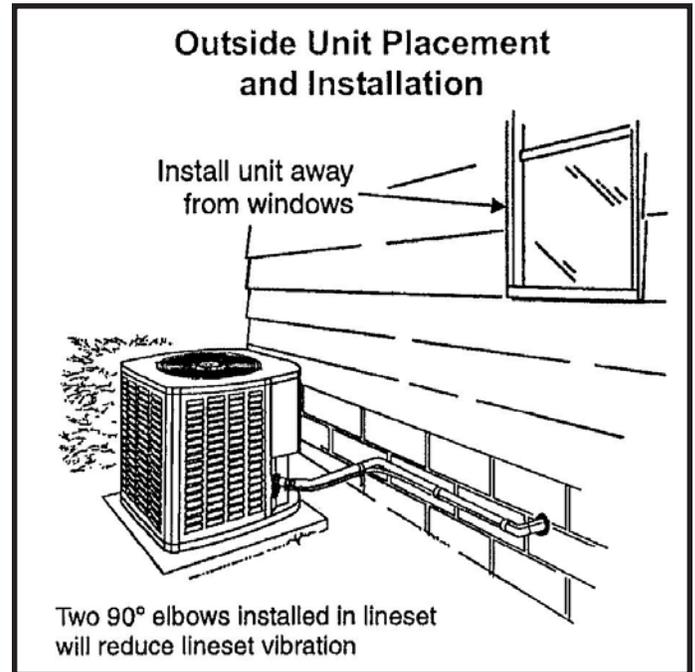

Figure 5
4. Install low voltage wiring from outdoor to indoor unit and from thermostat to indoor unit (See Figure 5).
Be aware that some localities are adopting sound ordinances based on how noisy the unit is at the neighbor's home, not at the original installation. Install the unit as far as possible from the property line. When possible, do not install the unit directly outside a bedroom window. Glass has a very high level of sound transmission. Figure 5 on page 5 shows how to place the outdoor unit and line set to reduce line set vibration.